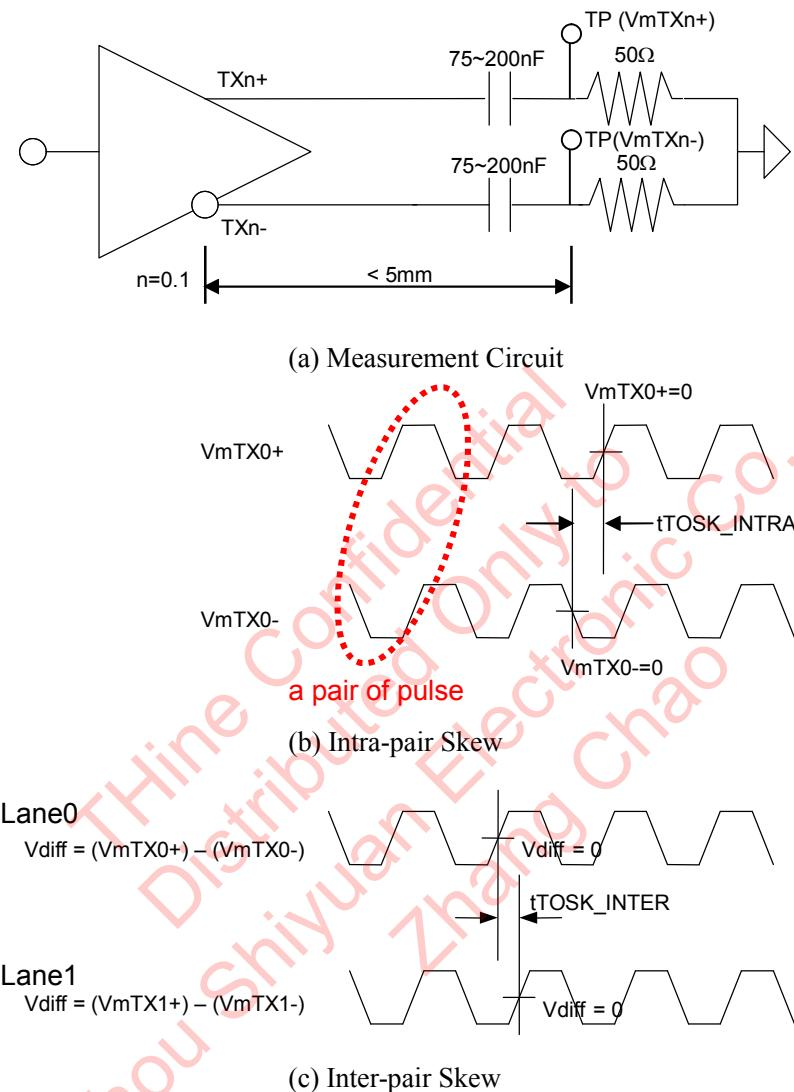
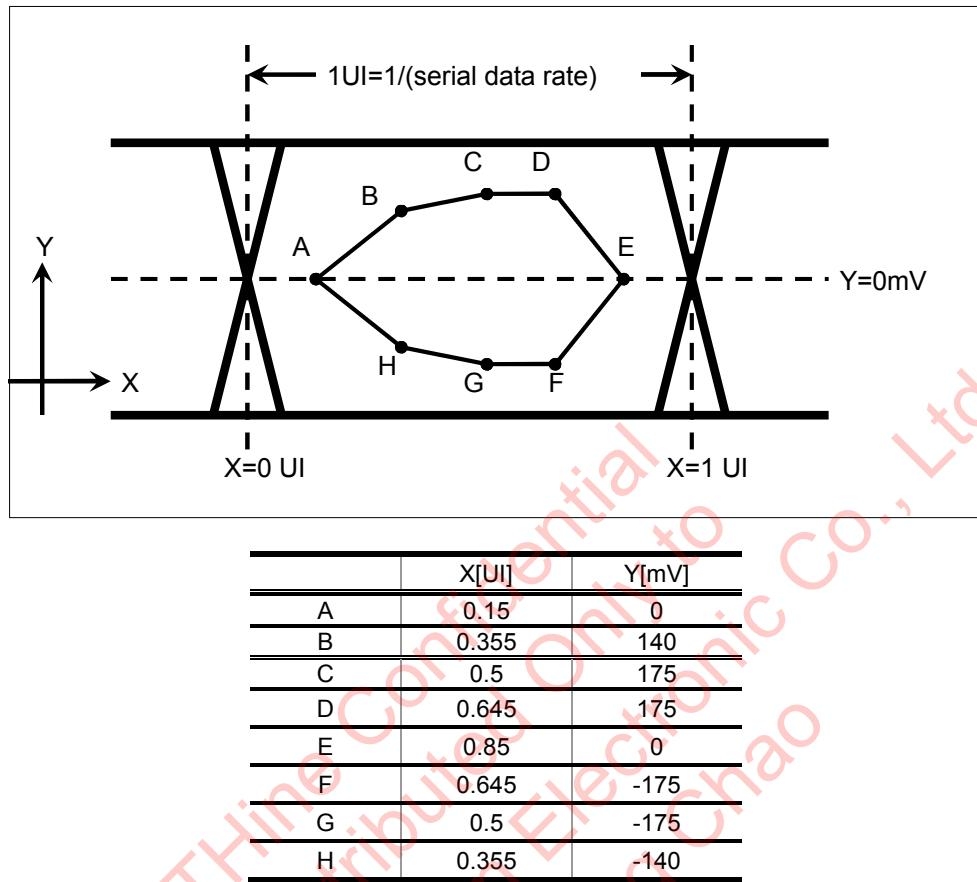
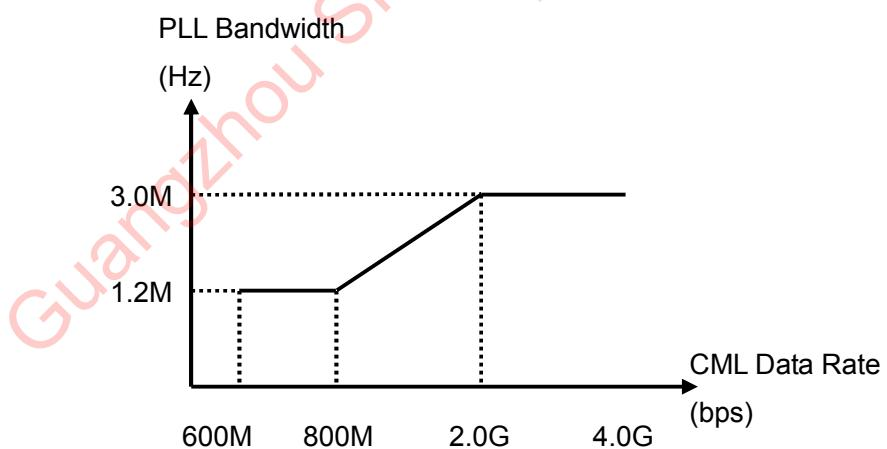

Figure 22 CML Test Circuit and Output AC Timing Diagrams
Figure 23 Eye Diagram at Transmitter
Figure 24 PLL Bandwidth of V-by-One[®] HS Transmitter
The data link of the V-by-One® HS interface requires an AC-coupled link. The electrical test of the transmitter is performed using the test load shown in Figure 22.
The intra-pair skew is the time difference between the true and complementary single-ended signals as shown in Figure 22 (b). The inter-pair skew is the time difference of the differential voltage between any two lanes in Figure 22 (c). These characteristics are measured at TP in Figure 22 (a) on both Low-to-High and High-to-Low transitions.
For all lanes, the differential voltage from the transmitter must be complied with the Eye diagram of Figure 23 at the TP point of Figure 22.
For the spread spectrum tolerance with lower jitter level, transmitter must have the upper limitation of its PLL loop bandwidth as shown in Figure 24. The maximum amplitude of Spread Spectrum(SS) is limited to 0.5% center spread at the 30kHz modulation frequency.
Eye diagram measurement of Figure 23 is supposed to be held by using constant frequency which is an averaged frequency in one acquisition time. Specific memory depth for one acquisition is supposed to be set so that one acquisition time around trigger is the period length of transmitter PLL bandwidth defined in Figure 24. For example, 3MHz bandwidth requires 333ns acquisition time length because transmitter PLL allows slower frequency shift than 3MHz; therefore, those slow frequency shift phenomena under long acquisition condition has no need to be focused on.
For the stable connection between transmitter and receiver, the PLL bandwidth of the receiver must be set properly to handle the CML signal from the transmitter which has the PLL bandwidth of Figure 24.